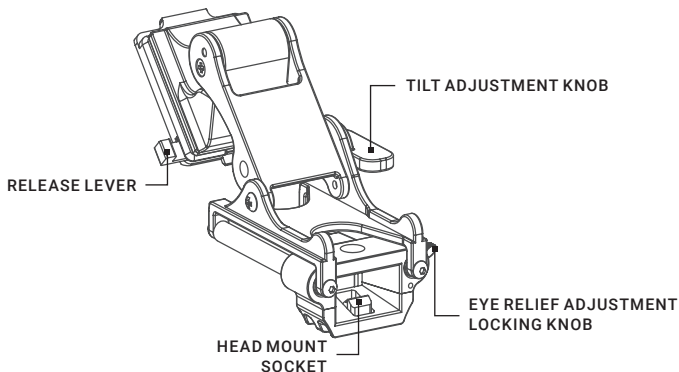

FIGURE 2-5. HEADMOUNT/HELMET MOUNT ADAPTER OPERATION
2. To set your eye relief, loosen the eye relief adjustment locking knob (Figure 2-5). Move the goggles back towards your eyes until the eyecups are comfortably sealed around your eyes. Tighten the locking knob.